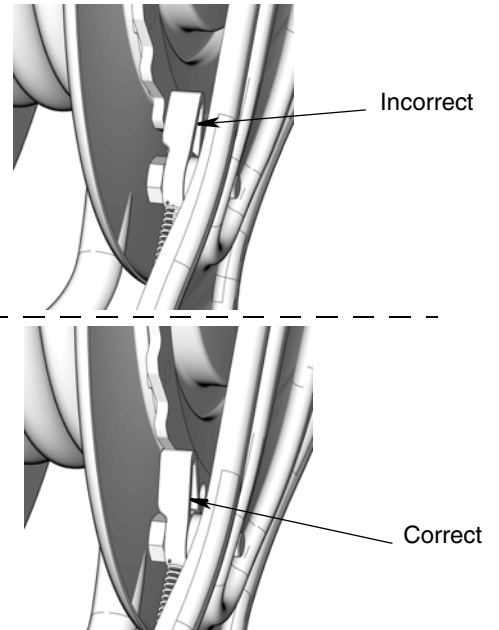

FIG. 4
*Discard the extra 4 screws (101) and washers (102) provided in the Plate Mounting Kit. This hardware is not strong enough to support the cord reel, cord and accessories and should only be used for open channel mounting applications.
2. Check pawl to make sure it is not wedged (FIG. 4). (Also see General Installation Information page 8.)
1. Ceiling Mount Only: Position cord reel so the reel base is facing up. Check pawl to make sure it is not wedged (FIG. 4, 9). (Also see General Installation Information page 8.)
1. Check pawl to make sure it is not wedged (FIG. 4, 9). (Also see General Installation Information page 8.)